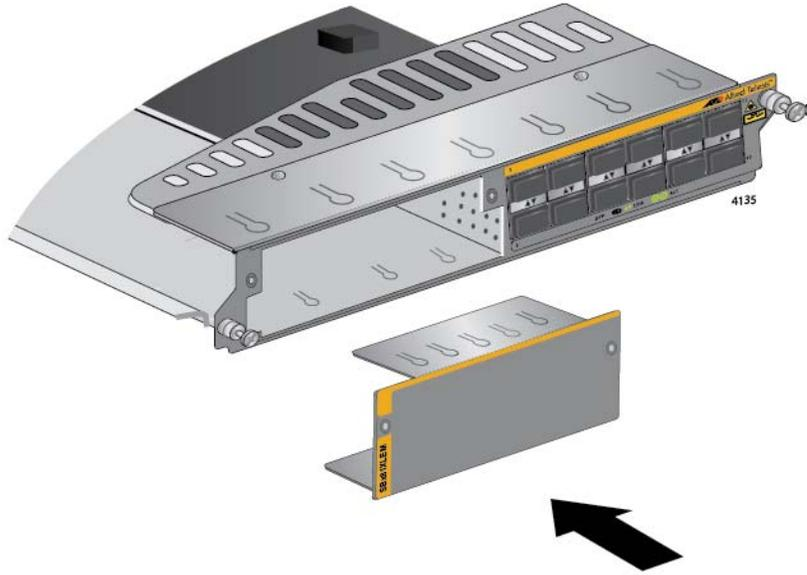

Figure 166. Sliding the Blank Slot Cover into the AT-SBx81XLEM Line Card
9. Slide the blank slot cover that comes with the line card into the slot on the card. Refer to Figure 166 on page 259.